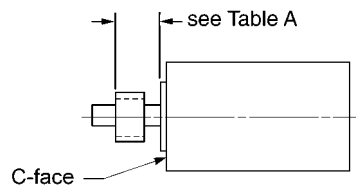

Figure 3
4. Position hub as shown in Figure 3 and Table A. (When properly positioned the outer face of the hub should extend past the outer face of the last friction disc by about 1/8").